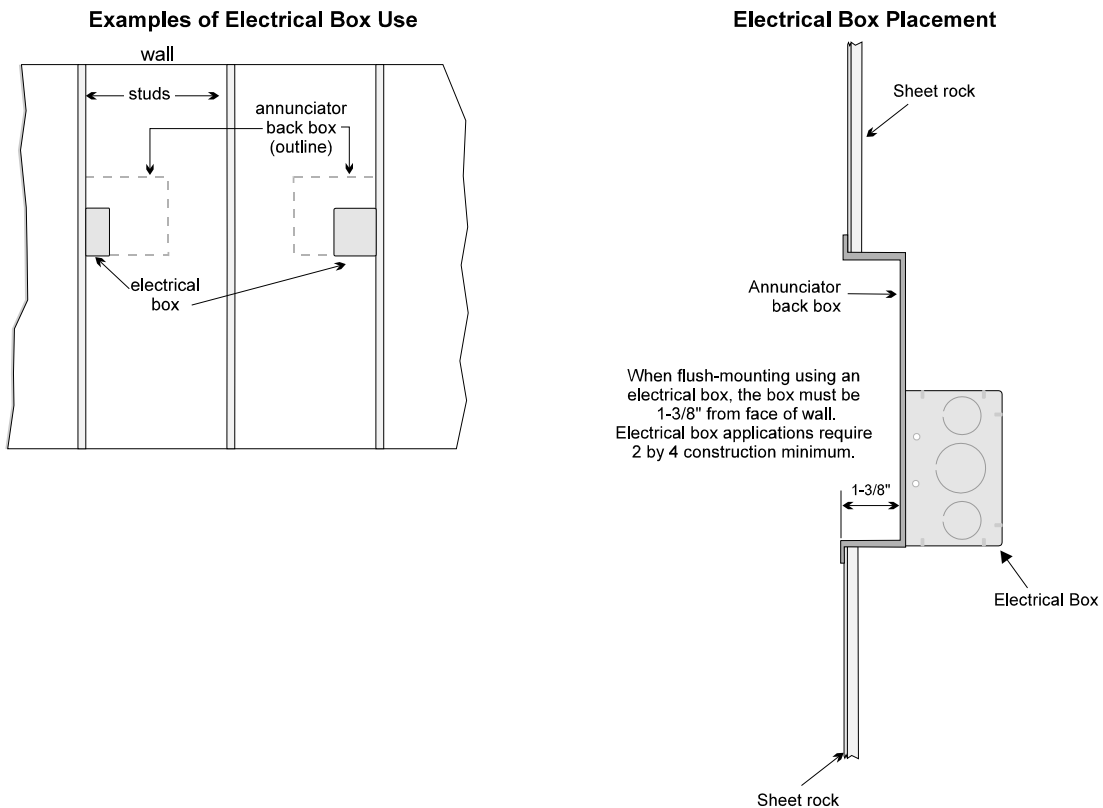

Figure 4.20 Placement of Electrical Box for Flush Mounting
1. Cut a hole in the sheet rock to the following dimensions: 8-1/4" w x 6-5/8" h. If an electrical box is used, the box must be 1-3/8" back from face of wall to accommodate the annunciator (see Figure 4.20).